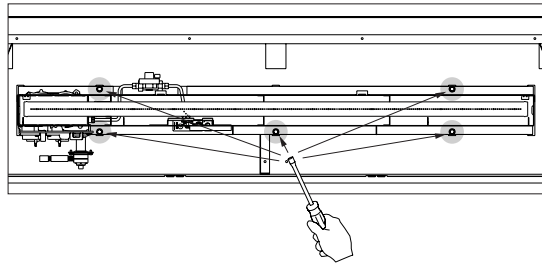

Figure 27
2. Remove burner box from fireplace. **See Figures 27 and 28.**